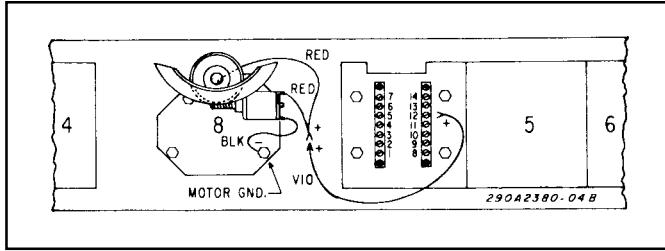

Figure 4.
b. If position eight was chosen (JSTREAM only), connect the female terminal on red and black wires of rotating reflector as shown in figure 4.